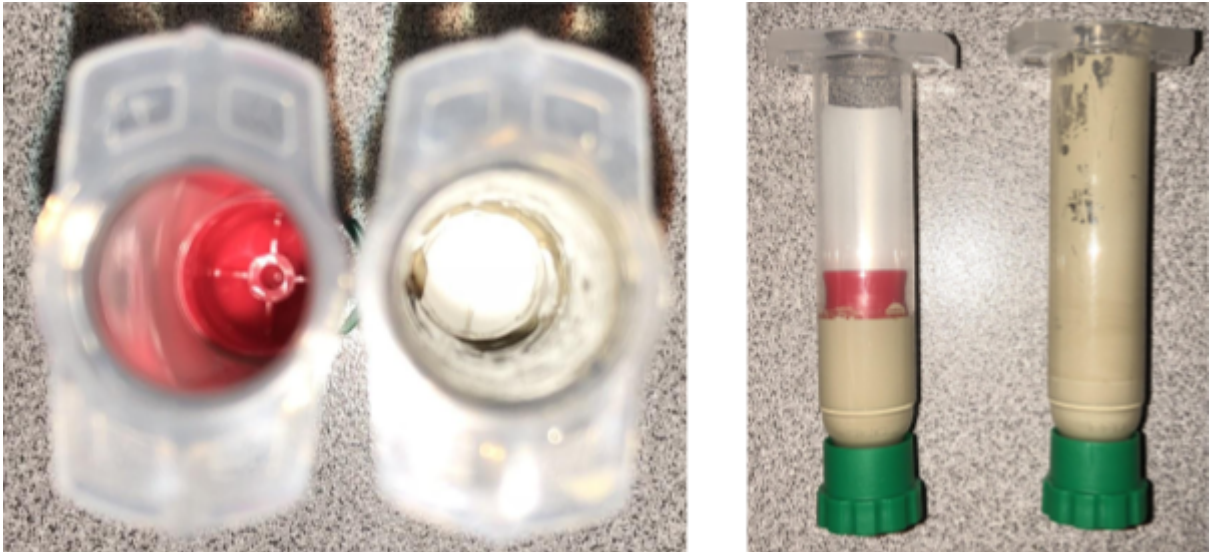

Figure 2: Top and front views of cartridges with good (left) and damaged (right) seals.
- Inspect the plastic seal inside the ink cartridge that separates the ink from the lead screw. If the seal is damaged or distorted, it should be replaced. See Figure 2.